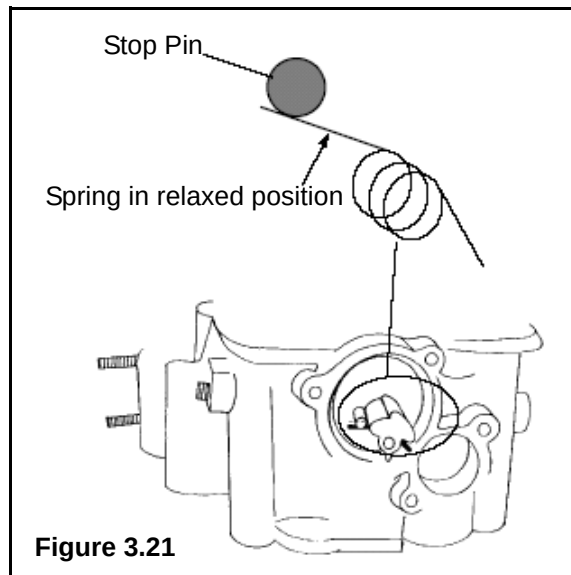

Figure 3.21
5. Position camshaft as shown at the bottom of **Figure 3.21**.